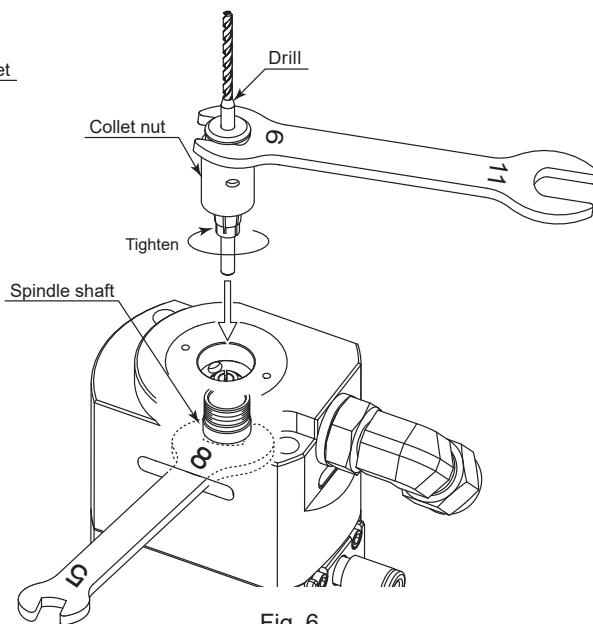

Fig. 6
(2) Insert the drill into the collet, and attach the drill and the collet nut to the spindle shaft. (Fig. 6)
(3) Place the provided 8mm wrench on the wrench flats of the spindle shaft.